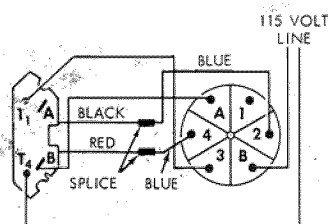

Figure 6
7. The motor may be operated with a reversing switch (9M2982 in catalog), provided connections are made as shown in figure 6. The motor must come to a complete stop before reversing can be accomplished. If motor rotation does not correspond to switch notations, interchange switch leads 2 and 4.